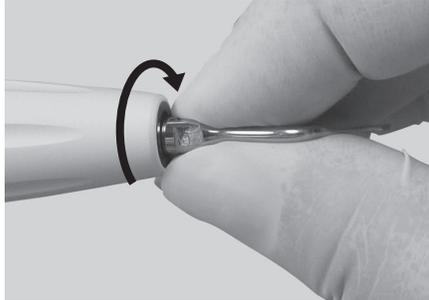

Fig. 15
- 1) First, lightly screw in the Tip with by hand. (Fig. 15)